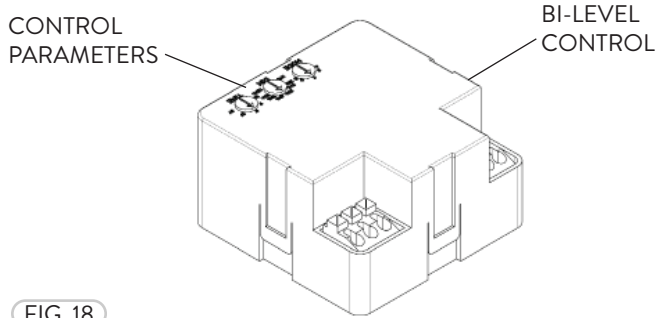

FIG. 18
- The integrated Bi-Level Occupancy Control is a programmable microwave motion detector (Fig. 18). The Bi-Level Control is pre-installed. **NOTE:** Subject to availability, might substitute with other sensor models with similar functions.